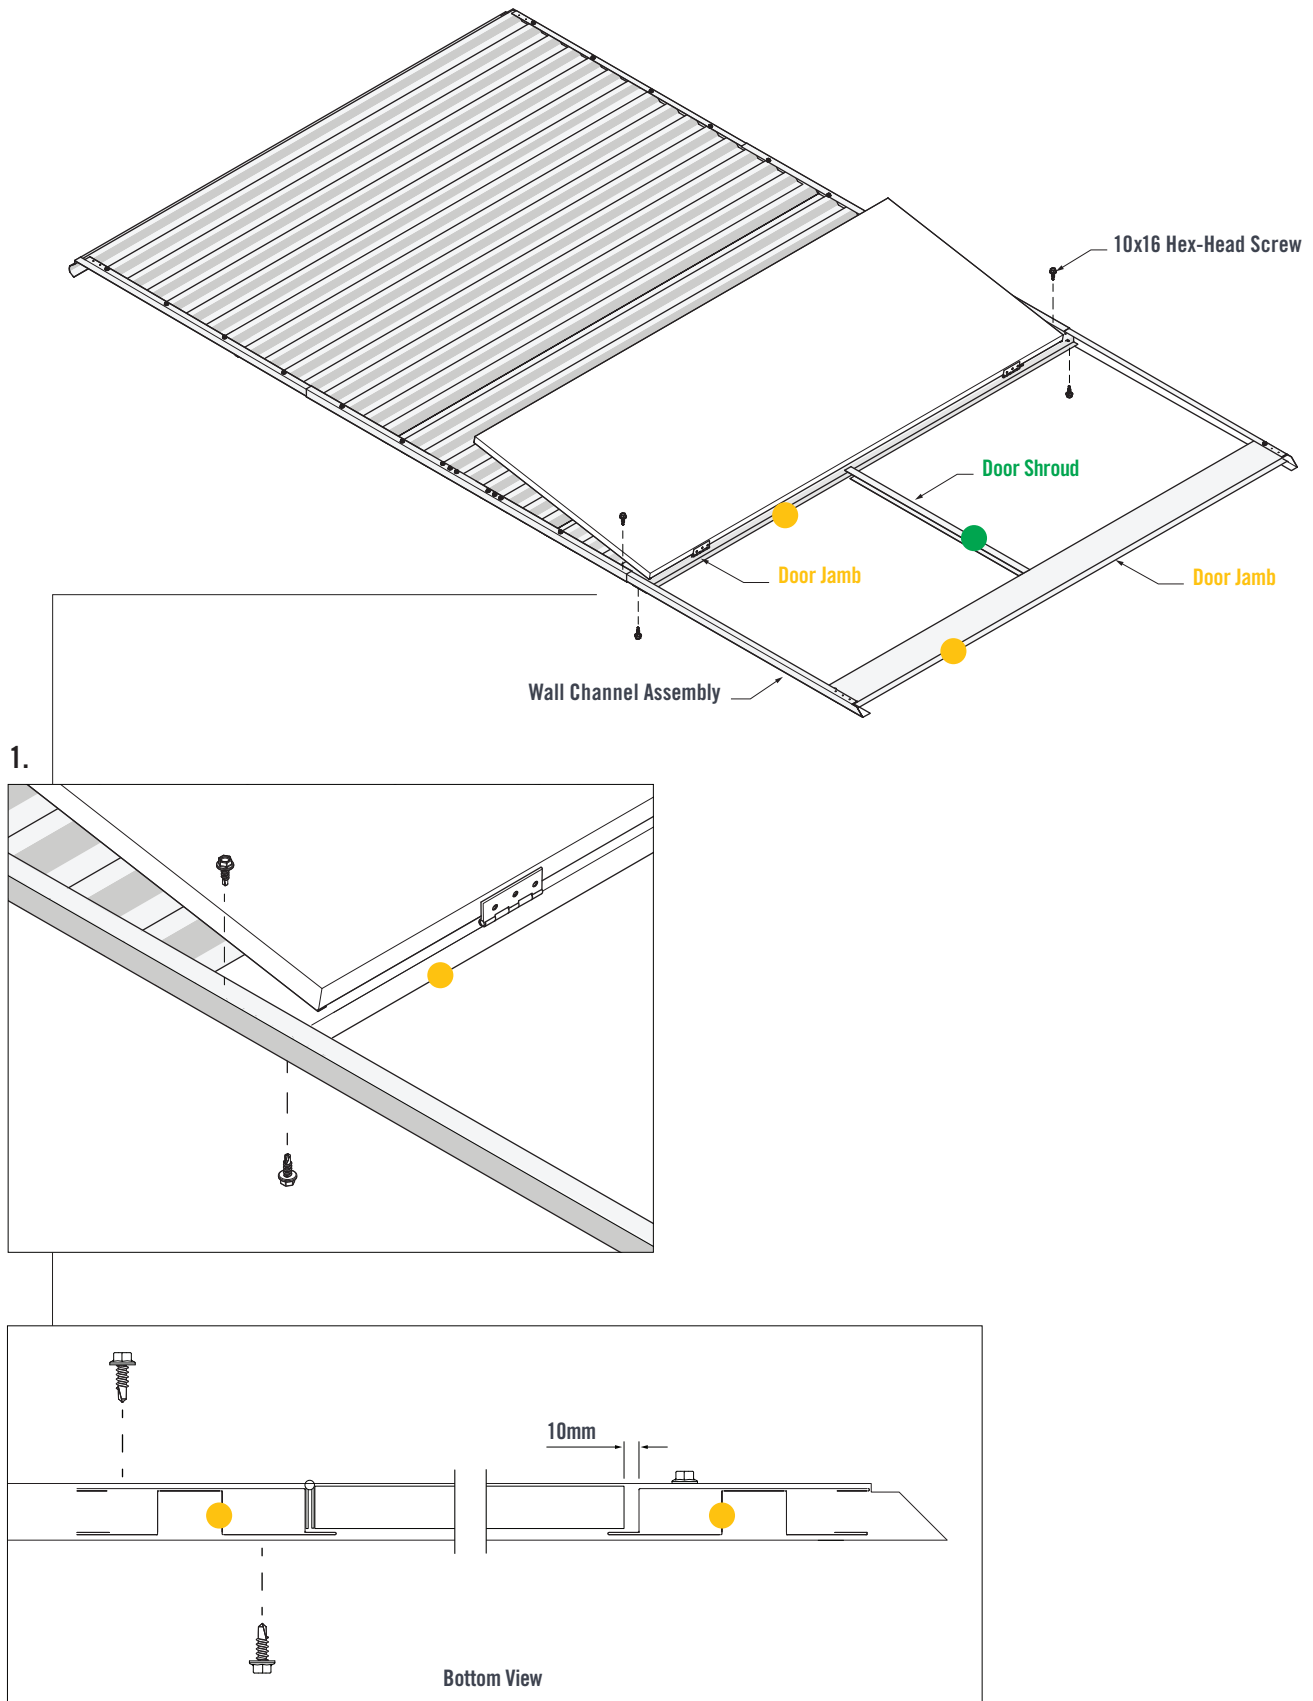

FIGURE 4.3
With the Door open, fit the **Door Shroud** in-between the **Door Jambs**. Use the **Door Shroud** as a guide to set the correct spacing between the **Door Jambs** (Figure 4.3).
1. Fasten two 10x16 self-drilling screws through both **Wall Channels** and into the **Door Jamb**. Close the Door and ensure an approximate 10mm gap between the edge of the Door and end **Door Jamb** (Figure 4.3).